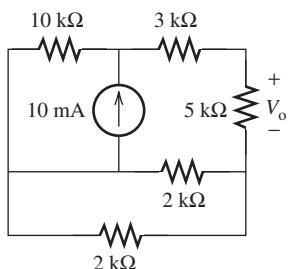

FIGURE P3.28 Circuit for Problem 3.28.
- 3.28 (H)*** Find V_o in Figure P3.28.